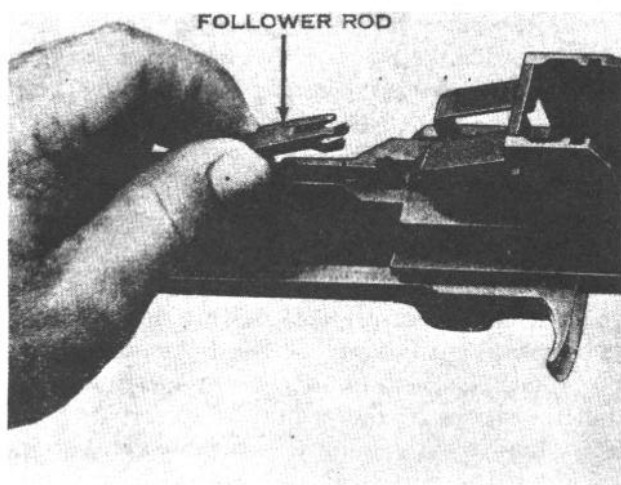

Figure 4. Removing the follower rod and operating rod spring.
a. Place the barrel and receiver group, with the bolt closed, on a flat surface with the sights down (insuring that the aperture is at its lowest position), muzzle pointing to the left. Holding the rear of the receiver with the right hand, grasp the follower rod with the thumb and forefinger of the left hand and disengage it from the follower arm by moving it toward the muzzle (fig. 4).